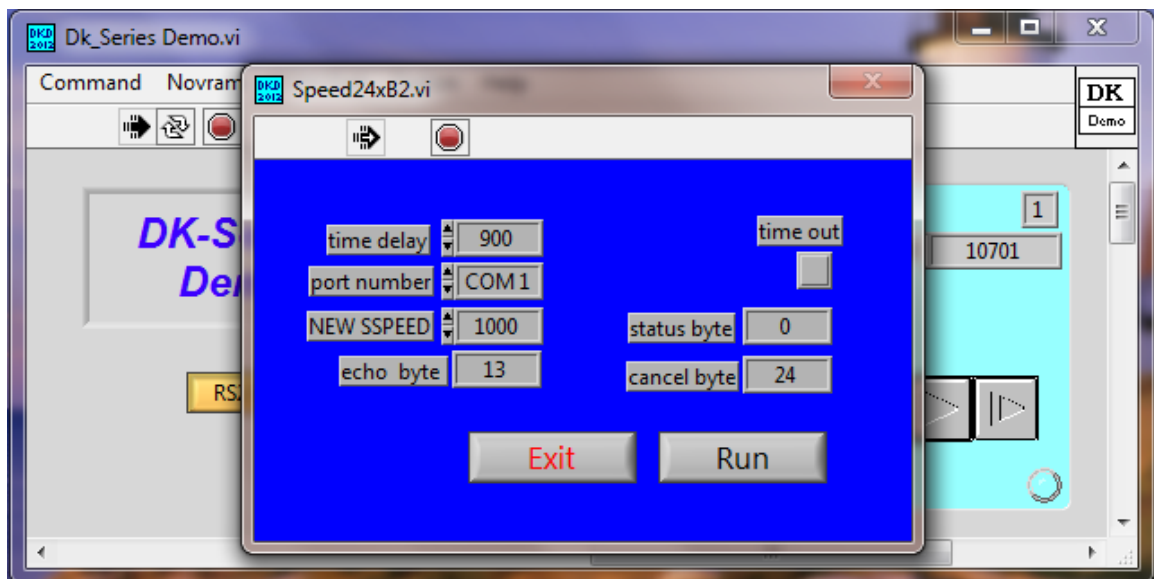

Figure 7. Scan Speed
9.2.3 Scan Speed – This vi allows the user to select the grating scanning speed (Fig 7). Scan speed is dependent upon the grating grooves/millimeter. Enter a valid scan speed number in the NEW SSPEED box. Scan speed may also be chosen on the Scan vi, as described in 3.2 above. After a speed is input, press the Run button to execute the new speed. Press Exit to quit the vi.